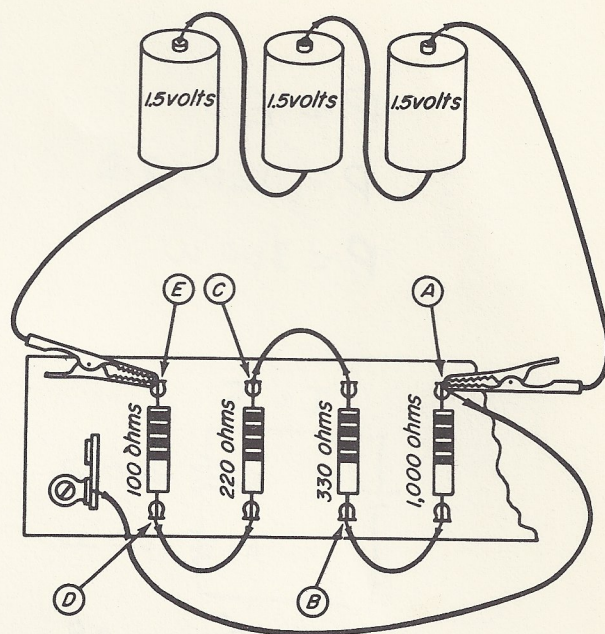

Fig. 9-8
Step 1. At point *B*, unsolder the lead between the tie terminal and point *B*. Solder this lead to point *A*, as shown in Fig. 9-8.